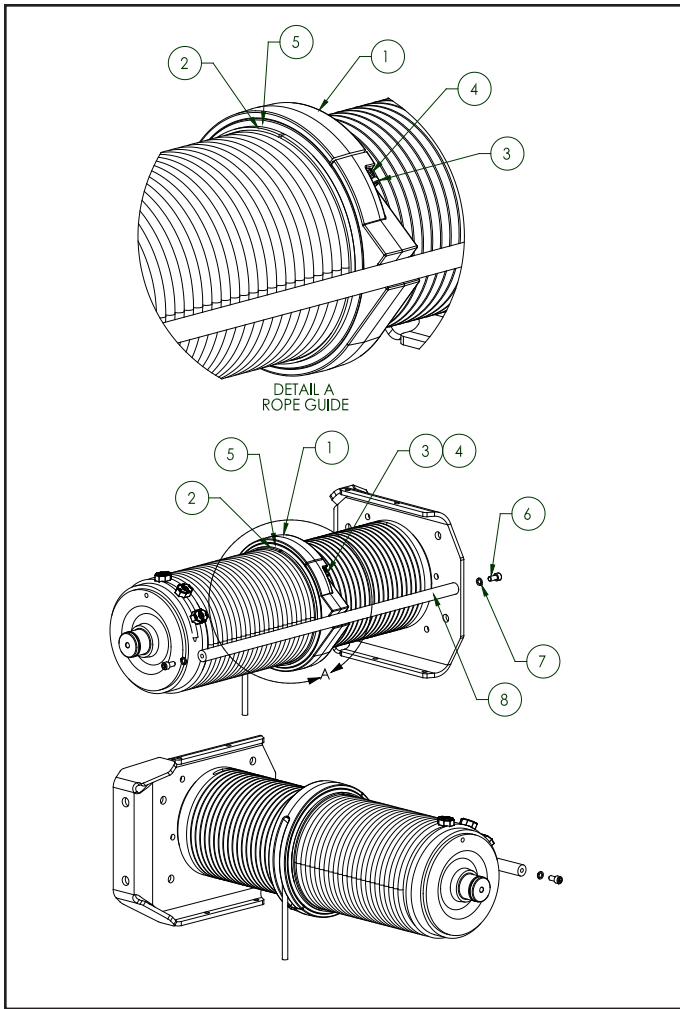

Figure 5-3a. Rope Guide Assembly ("B" & "C" Frame)
b) **Disassembly for "B" & "C" Frame.** Refer to Fig. 5-3a. For further assistance in locating components, refer to the parts list in Section IX.
- (1) Remove socket head cap screws and lock washers (Items 6 and 7). Remove drum frame rod (Item 8).
- (2) Remove shoulder bolts (Item 3) and compression springs (Item 4). The two halves of the rope guide body (Item 1) can now be pulled off the drum separately. When reassembling be sure that the half with the rope slot is on the top half of the drum.
(2) With all personnel clear of hoist - TURN ON POWER.
(3) Operate hoist "UP" guiding six (6) wraps of new rope into drum grooves with gloved hand.
(4) Reinstall rope guide over rope in rope drum grooves as shown in Figure 5-3a. & 5-3b. and outlined in Section V, Paragraph 5-5. Continue lubricating as rope is spooled onto the drum until about 28'-0" remain unwound.